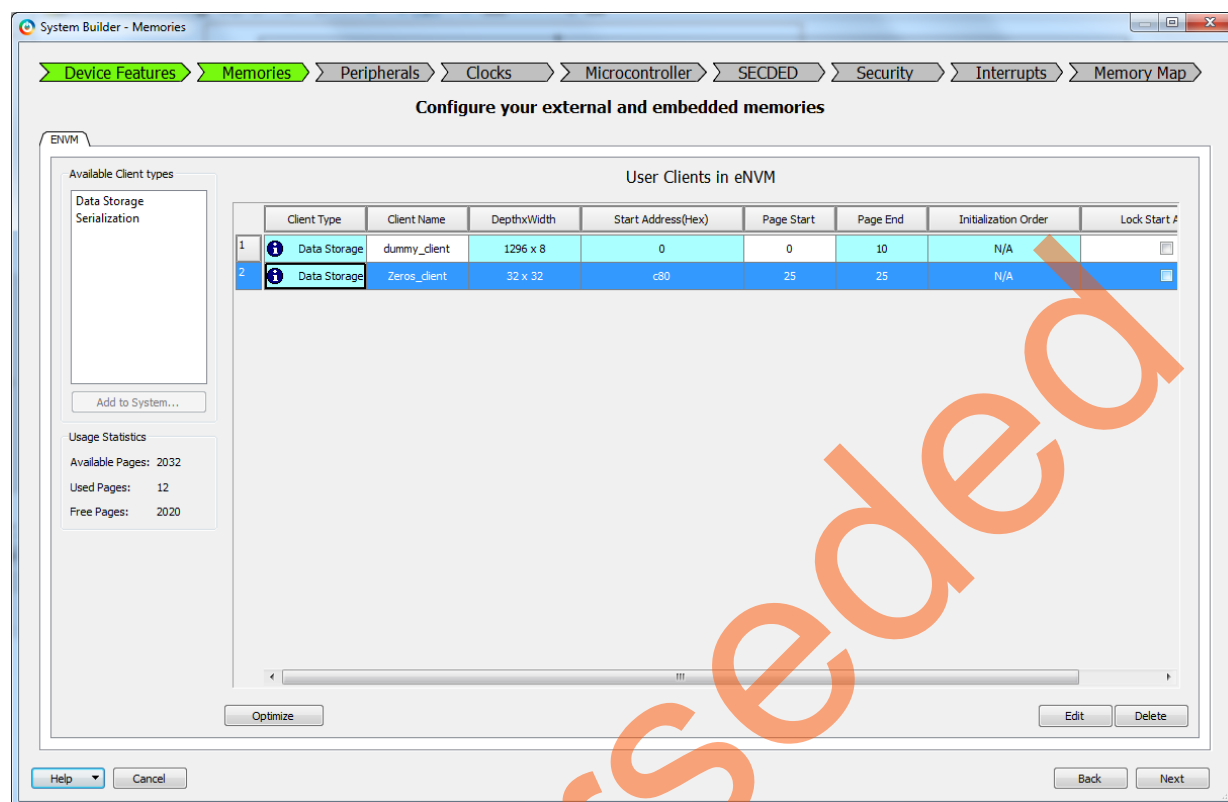

Figure 8 • SmartFusion2 - Memories Page
- In the **Memories** page, add **zeros_client** and **dummy_client**, as shown in Figure 8.